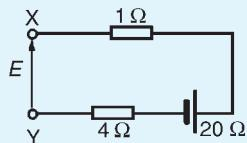

Figure 13.95
11. The open-circuit voltage  $E$  across terminals XY of Fig. 13.95 is: